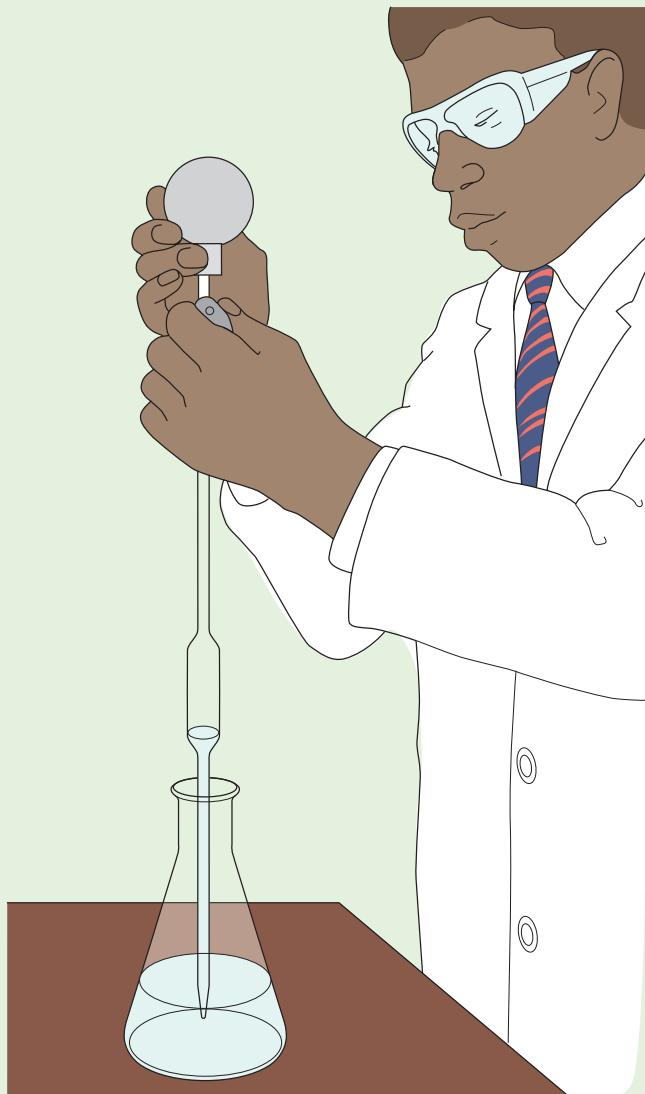

Figure 8.23 Exactly 25.0 cm³ of sodium hydroxide solution is pipetted into a conical flask.
- 25 cm³ of sodium hydroxide solution is pipetted into a conical flask to which a few drops of phenolphthalein indicator have been added (Figure 8.23). Phenolphthalein is pink in alkaline conditions but colourless in acid.